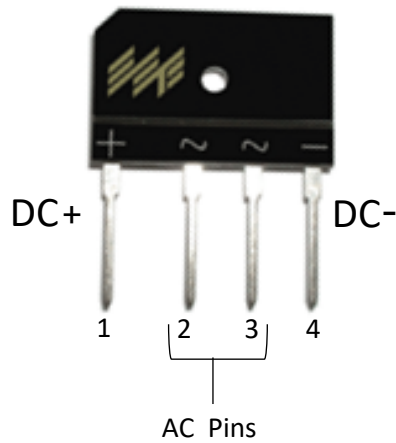

Figure 36: Pins of a Bridge Diode Rectifier
- 2) Now, as shown in Figure 36, place the black and red probes of the multimeter on the two terminals of the fuse. If the fuse is intact, the multimeter will indicate continuity. If the multimeter detects an open circuit or displays any significant reading, it means the fuse has melted.